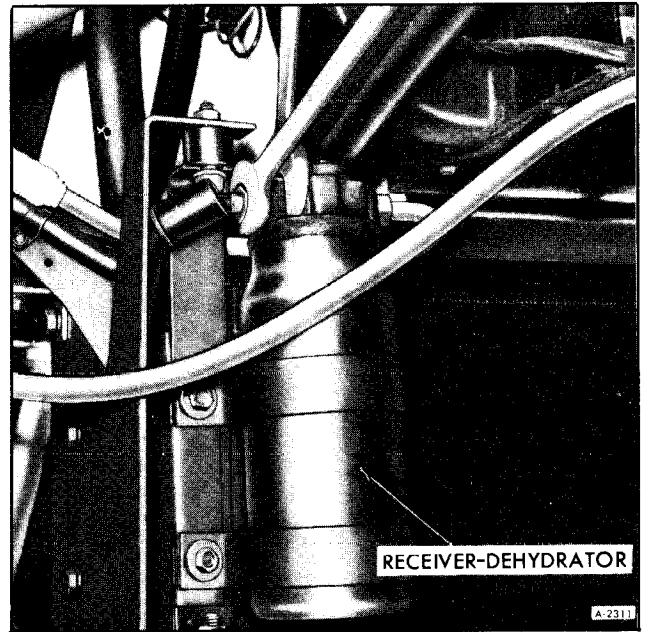

Figure 31-Disconnecting Lines to Receiver-Dehydrator
1. Disconnect the inlet and outlet lines being sure to use a wrench on the square portion of the receiver dehydrator for support. This will prevent twisting and possible breaking of the aluminum lines (See figure 31).